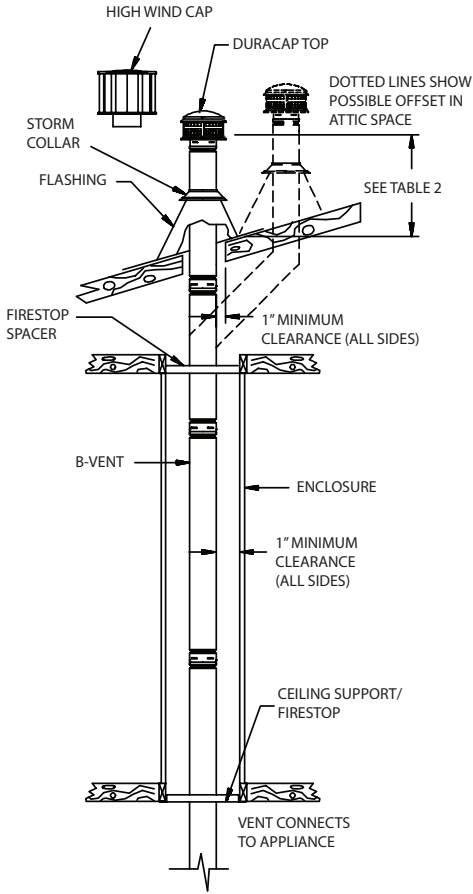

Figure 1
**3. Figures 1, 2, & 3** show examples of some typical residential installations.
**9. Enclosures.** Any portion of the vent which passes through an occupied area must be enclosed, to prevent accidental damage to the system, as well as burns. **Figure 1** shows a system which passes through an occupied second floor. DuraVent does not recommend installation of B-Vent Pipe on the outside wall of a building, particularly in cold climates. If it is necessary to do this, enclose the outside portion of the system in a chase, as shown in **Figure 11**. Consult the Local Authority